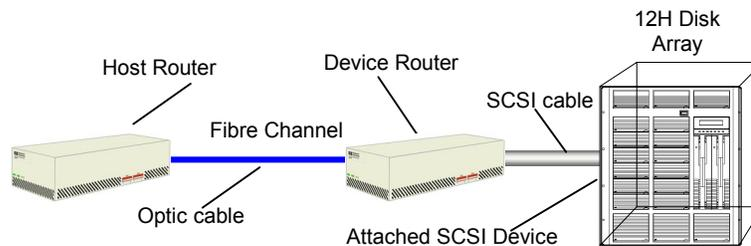

Figure 2-2. Completed Setup of the Host Router
- Figure 2-2. Completed Setup of the Host Router 4
4. At this point the host/server should not be attached, as shown in Figure 2-2.